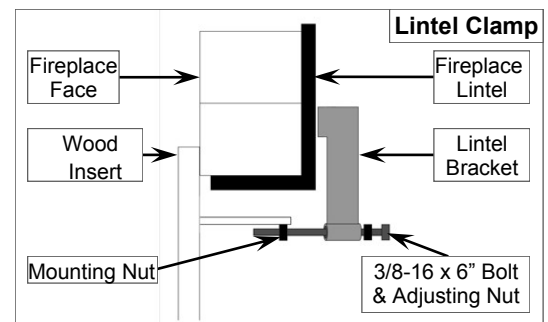

Figure 2
- Assemble the Lintel Clamps by threading an adjusting nut onto each 6" bolt and adding the Lintel Bracket. **(Figure 2)**